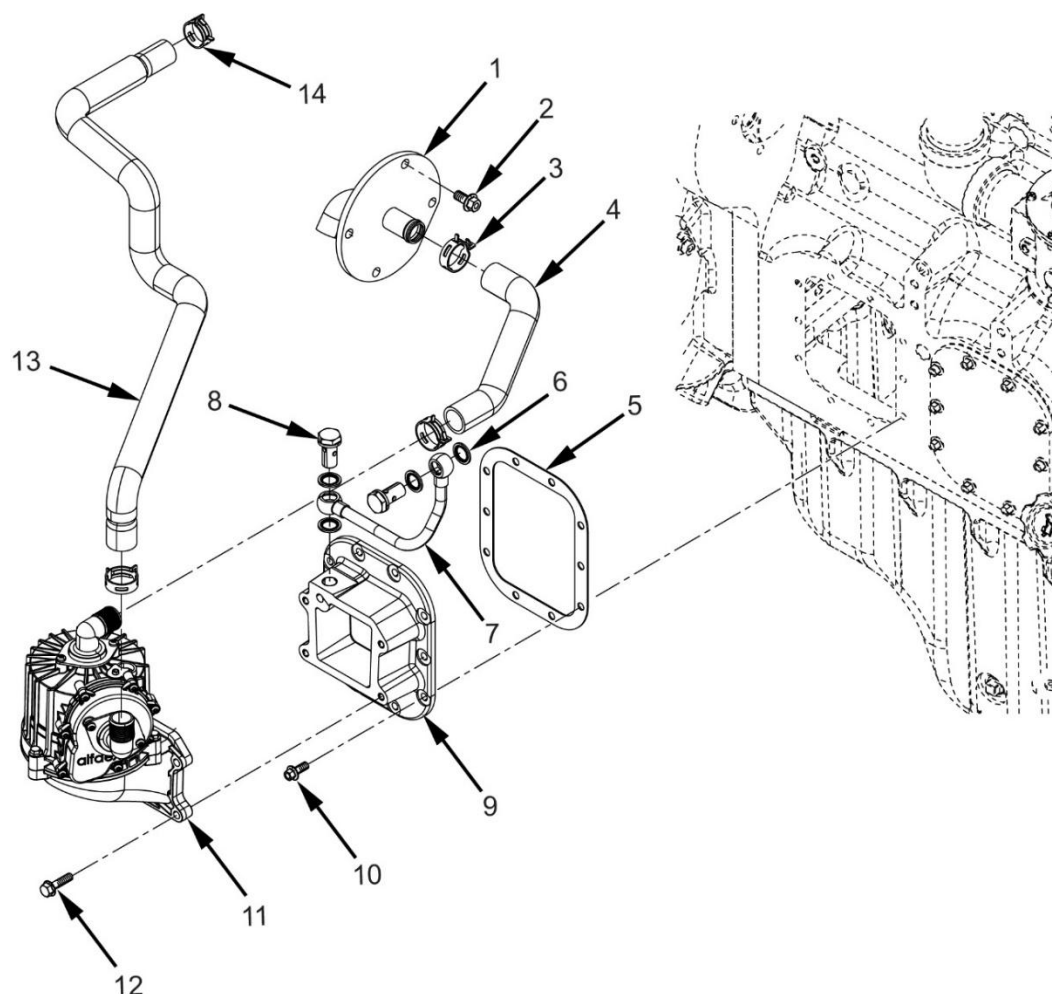

Figure 140. Breather Assembly
1. Loosen the clamps (Figure 140, Item 3).
2. Remove the hose (Figure 140, Item 4).
3. Remove the bolts (Figure 140, Item 2).
4. Remove the cover (Figure 140, Item 1).
5. Loosen the clamps (Figure 140, Item 14).
6. Remove the hose (Figure 140, Item 13).
7. Remove the bolts (Figure 140, Item 12) and remove the oil/gas separator (Figure 140, Item 11).
8. Remove the hollow screws (Figure 140, Item 8), assembled sealing washers (Figure 140, Item 6) and pipe (Figure 140, Item 7).
9. Remove the bolts (Figure 140, Item 10).
10. Remove the handhole cover (Figure 140, Item 9) and gasket (Figure 140, Item 5).
1. Place the handhole cover (Figure 140, Item 9) and gasket (Figure 140, Item 5) on the engine and secure with bolts (Figure 140, Item 10).
2. Install pipe (Figure 140, Item 7) with hollow screws (Figure 140, Item 8) and assembled sealing washers (Figure 140, Item 6).
3. Install the oil/gas separator (Figure 140, Item 11) with bolts (Figure 140, Item 12).
4. Install hose (Figure 140, Item 13).
5. Tighten the clamps (Figure 140, Item 14).
6. Install the cover (Figure 140, Item 1) and secure with bolts (Figure 140, Item 2).
7. Install the hose (Figure 140, Item 4).
8. Tighten the clamps (Figure 140, Item 3).